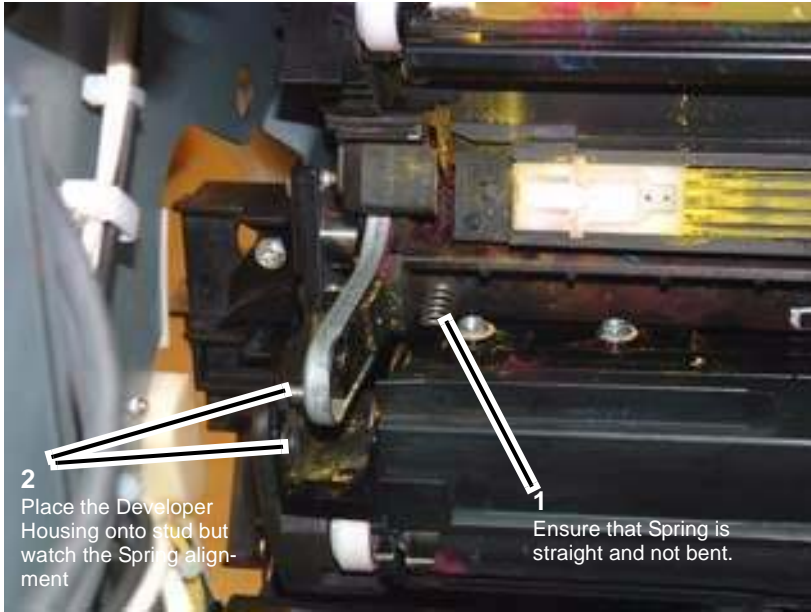

Figure 5 Location of Spring
1. When reinstalling the Developer Housing, ensure that the Spring, located on the outboard end of each Developer Housing, is straight as it is pressed against the turret of the Rotor frame. This Spring must be present, and properly installed. (Figure 5)